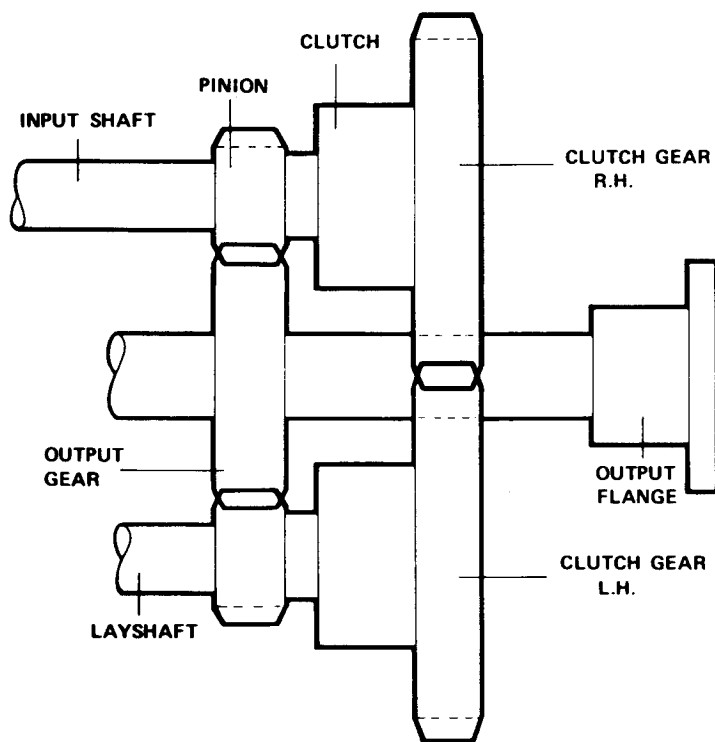

Fig. 2. internal layout
- Fig. 2. Internal layout diagram